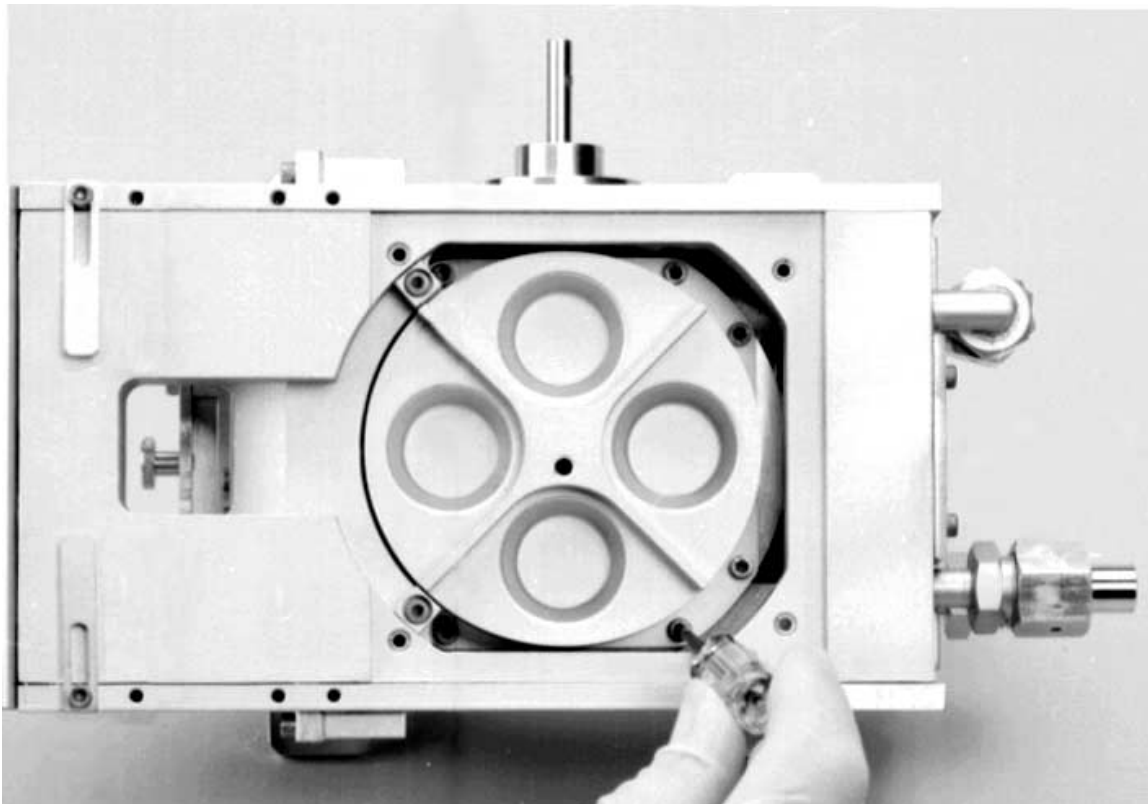

Figure 5-4. Removing the screws that secure the crucible to the crucible mounting flange
Step 3: Remove the screws securing the crucible to its mounting flange. There are eight of these screws, and six of them will be accessible if you turn the crucible to the position shown in Figure 5-4. Perform the following steps in removing these screws: